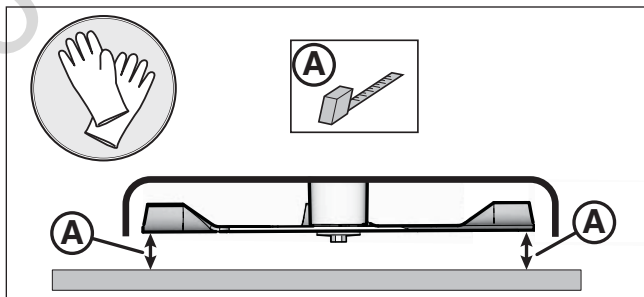

Figure 44. Checking the Blade Height Adjustment
7. See Figure 44. Position the outside mower blades so they face front-to-back.